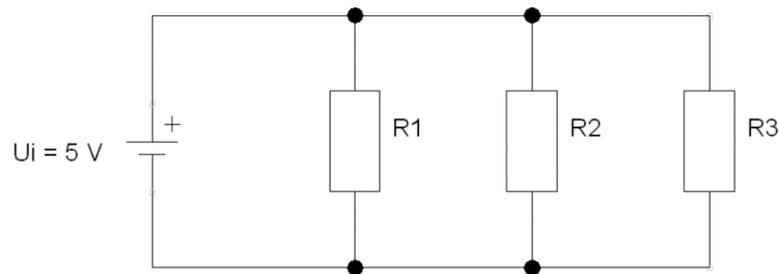

Figure 2.2: Resistors in parallel electrical circuit
2.2.1) The three resistors are connected in parallel to a direct voltage source. The parallel electrical circuit scheme/diagram is shown in the Figure 2.2.